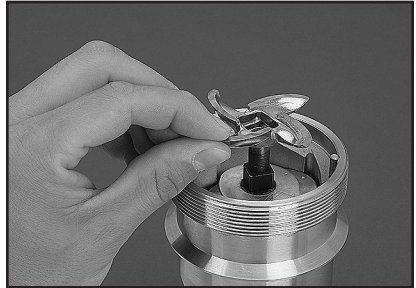

Figure 3. Cutting blade installation
5. Carefully slide the cutting blade on the square shaft on the front of the feed screw (Figure 3).